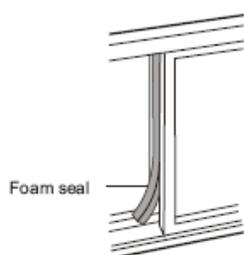

Fig.17
5. Cut the foam seal to an appropriate length and sealing the open gap between the top window sash and outer window sash. Show as in Fig.17.